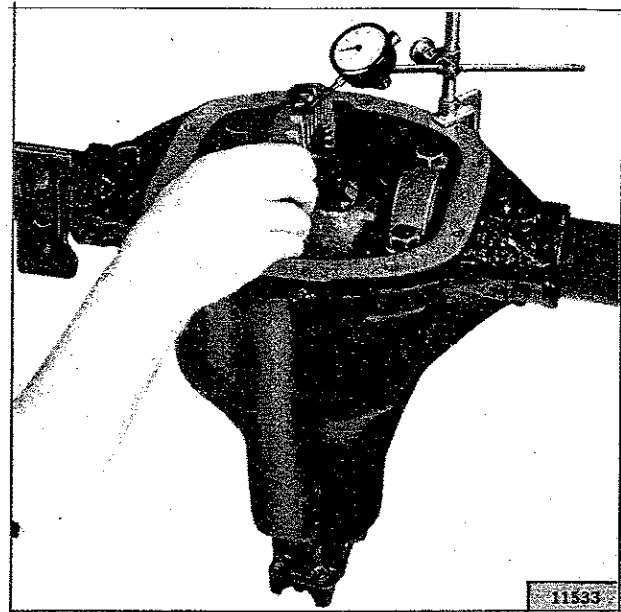

FIG. N-29—CHECKING RING GEAR BACKLASH
l. Install dial indicator to check ring gear backlash (Fig. N-29). Check backlash at two points. Backlash must be held between .005" to .010" [0,127 a 0,254 mm.]. If backlash does not fall within specifications, shims should be interchanged between the two differential bearing shim packs until correct backlash is obtained.